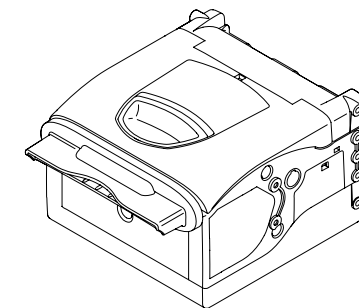

Fig. 8.5. Receipt printer
2. Unlock the printer cover using the opening lever (Fig. 8.5).